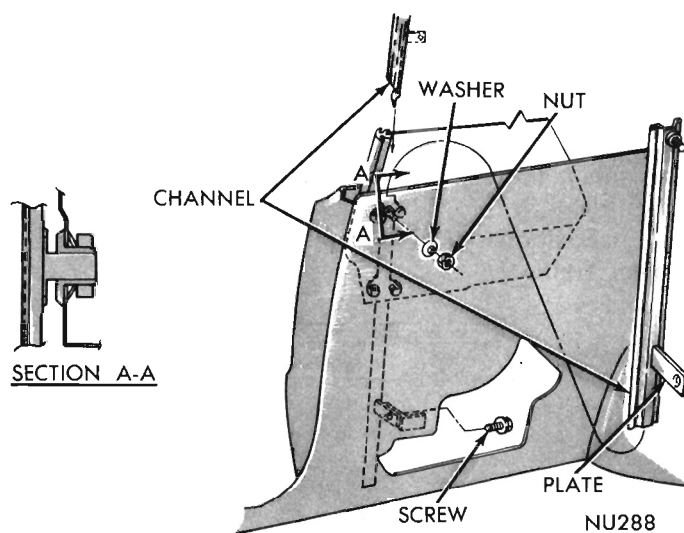
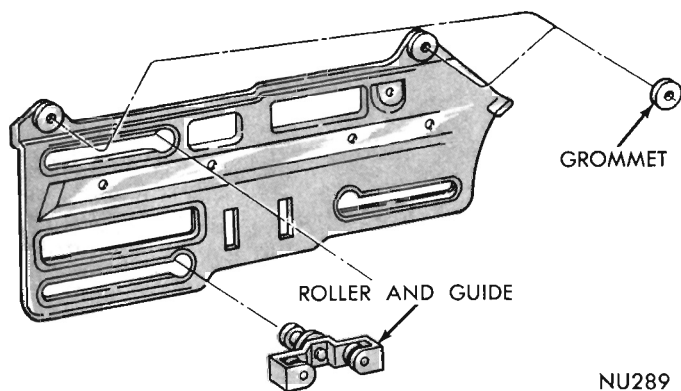
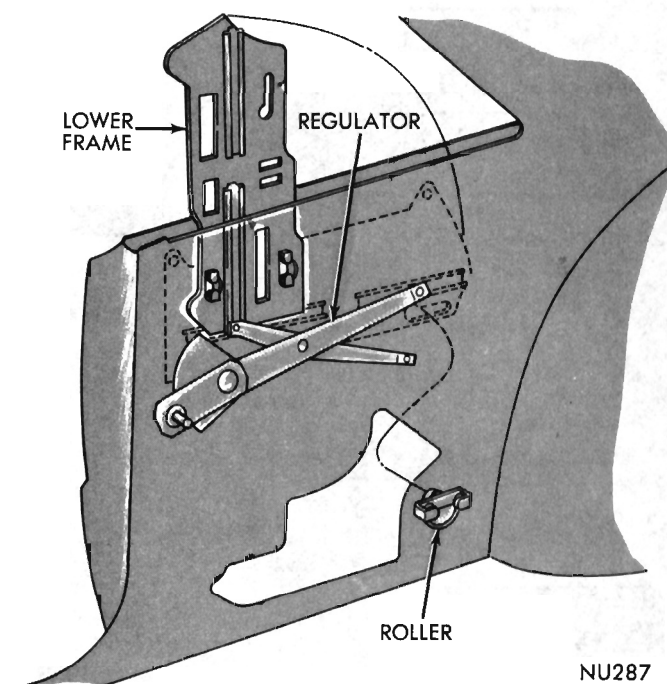

Fig. 39 - Front Track Assembly
Fig. 40 - Glass Lower Frame Assembly
Fig. 42 - Glass Lower Frame Replacement
- (1) Remove nut and washer from sleeve nut at upper end of track (Fig. 39).
- (2) Remove track lower plate to support screw.
- (3) Push track inward and move track and roller assemblies rearward to disengage rollers from glass lower frame.
- (4) Remove track and rollers out of panel through large access hole.
- (5) Remove roller assemblies from track (Fig. 40).
- (1) Position roller and guide assemblies on track.
- (2) Insert track assembly in quarter panel.
- (3) Position roller assemblies into slots of glass lower frame (Fig. 40).
- (4) Insert sleeve nut on upper end of track into
hole of inner panel (Fig. 39).
Removal (Fig. 42)
(1) Inspect glass lower frame to be sure grommets are installed at the upper outer holes (Fig. 40).
(2) Insert roller and guide assemblies into lower frame front upper and lower slots.
(3) Slide front end of lower frame into panel and engage front of lift channel to slide on regulator front arm (Fig. 42).
(4) Turn frame to normal position and engage rear channel to regulator rear arm slide.
(5) Position roller and guide assembly, on rear track, into rear slot of lower frame.
(6) Install rear track assembly on inner panel.
(7) Install glass assembly.